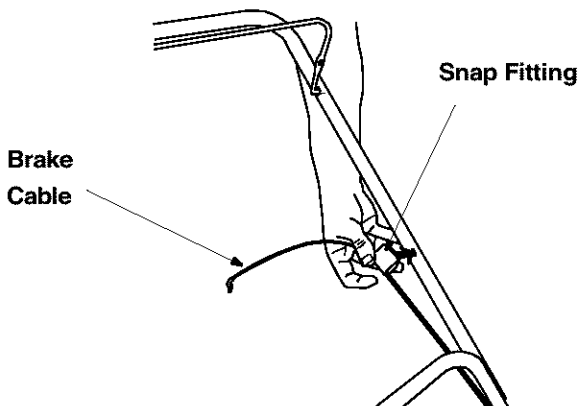

Figure 4
- On the opposite end of the cable housing is a snap fitting. The shaft inside the snap fitting fits in the second hole on the upper handle. Press the snap fitting in place as shown in Figure 4. Make sure that the blade control handle is on top of the upper handle.